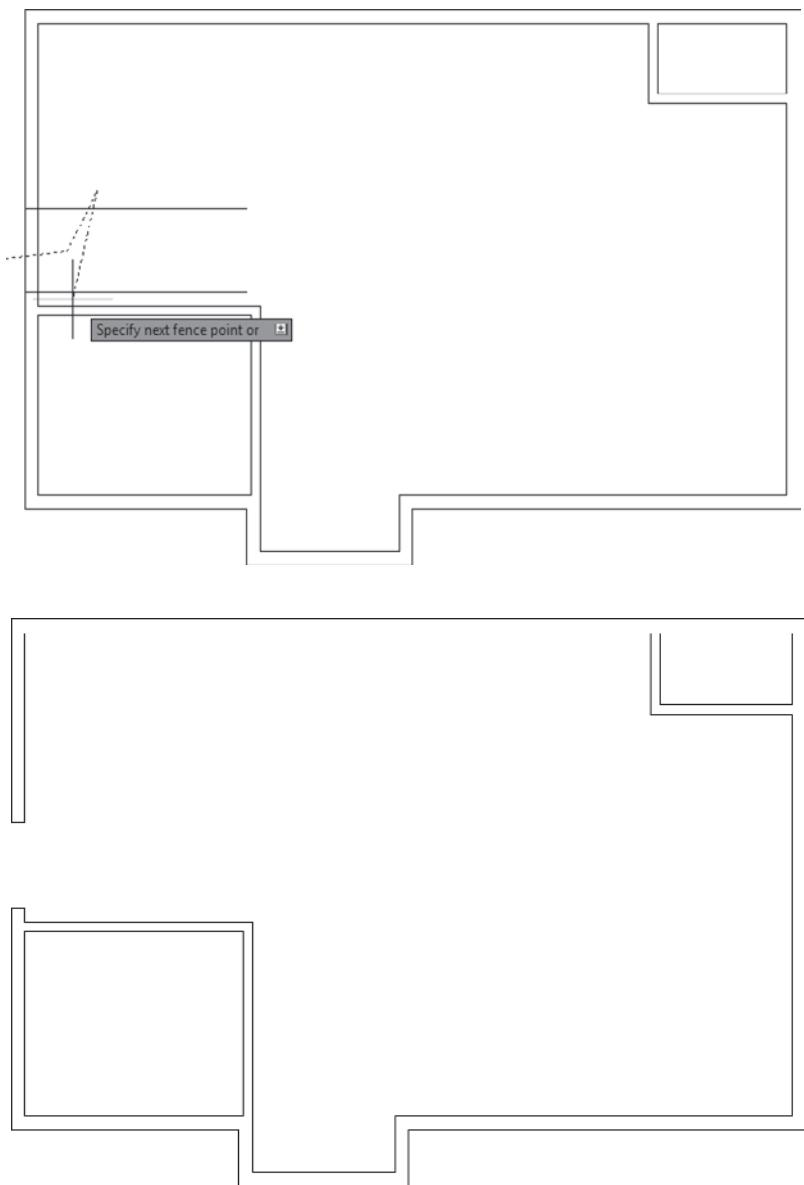

FIGURE 4.33 Using the Trim Fence option to trim away the unneeded lines
5. Start the TRIM command and press ↵ to skip the cutting edges prompt. When asked to Select object to trim, enter F for Fence at the command line. Draw a fence line as shown at the top of Figure 4.33. The result should look like the bottom of Figure 4.33.